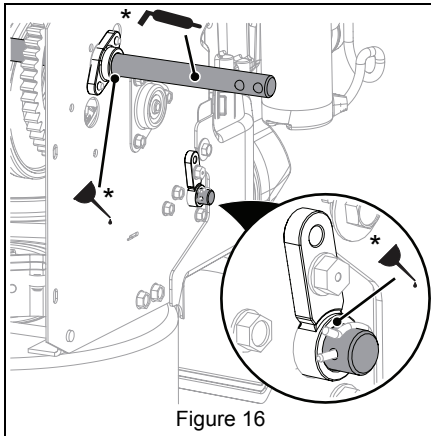

Figure 16
2. Lubricate as shown in Figures 16 and 17.